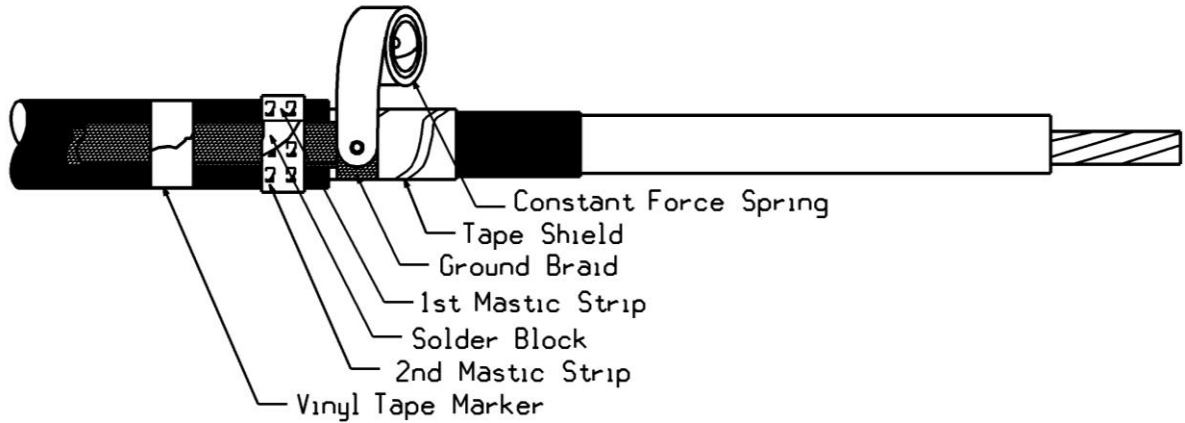

Figure 8
3. Wrap the ground braid around the tape shield, placing the solder block on the second tail on the mastic applied in Step 1. Secure with a constant force spring. Using the second mastic strip from the termination kit, remove the liners and wrap mastic over the solder blocks and the first mastic strip. If the solder blocks overlap each other, mastic must be applied between the solder blocks as well as over them. See Figure 8.